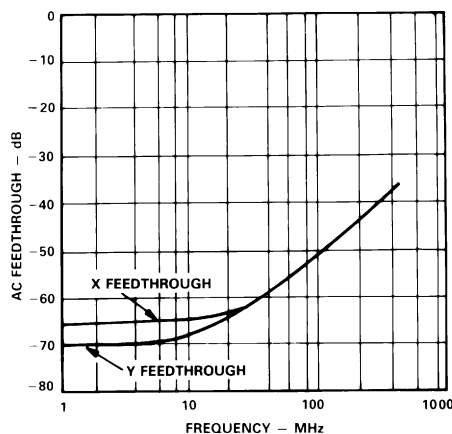

Figure 2. AC Feedthrough vs. Frequency
**Figure 2.** For frequencies above 1 MHz, ac feedthrough is dominated by static nonlinearities in the transfer function and the finite offset voltages. The offset voltages cause a small fraction of the fundamental to appear at the output, and can be nulled out.